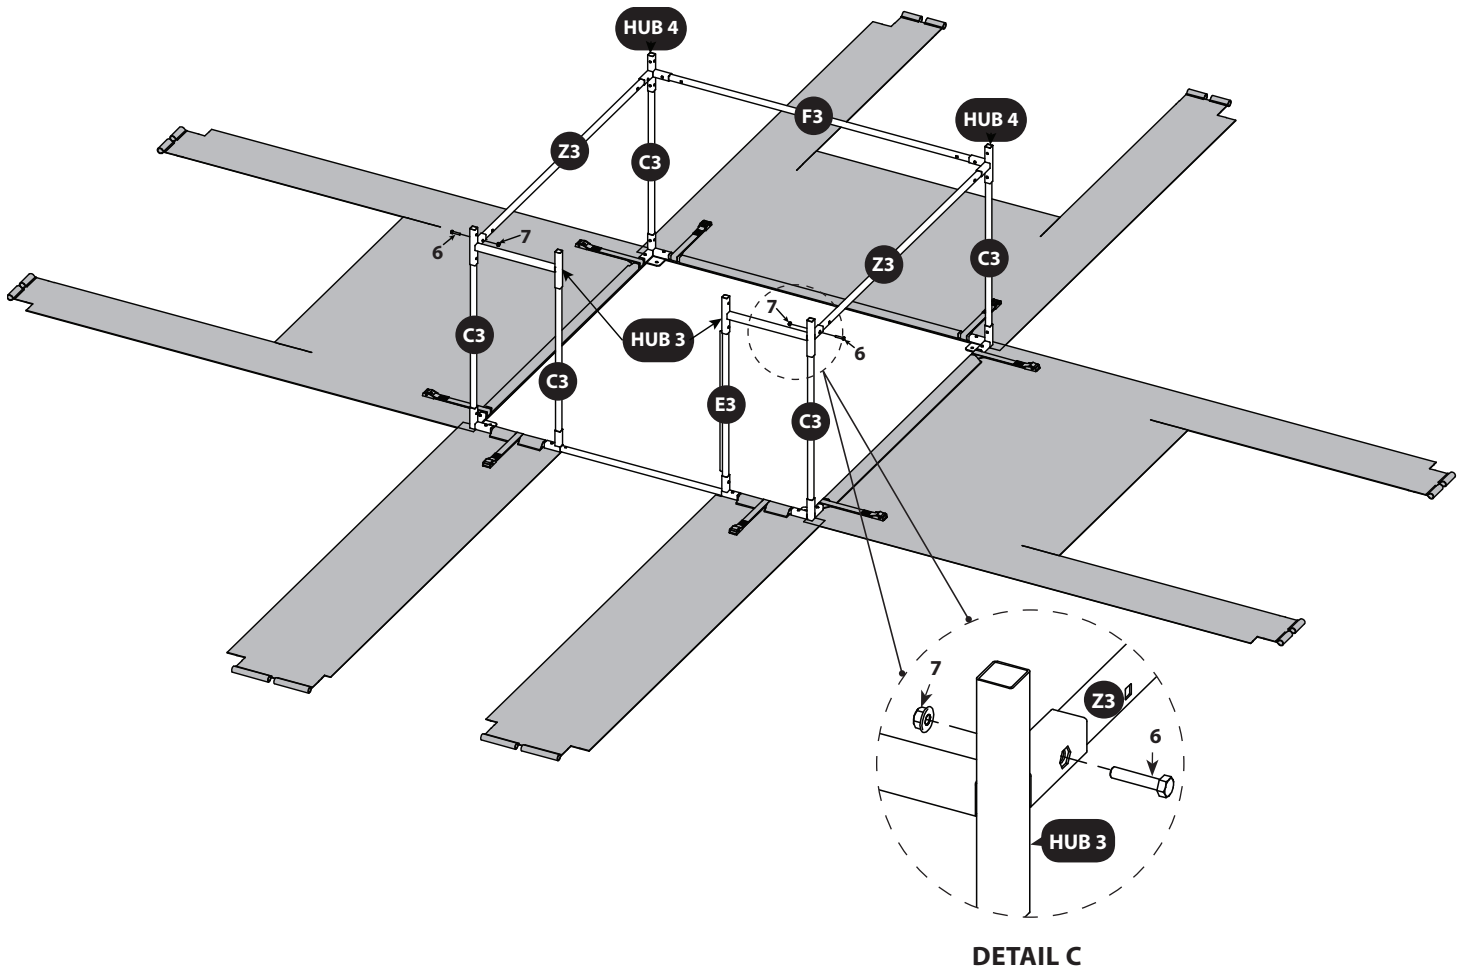

FIGURE 3
8. Locate two front corner hubs (HUB 3) and two middle corner hubs (HUB 4). Slide the two middle corner hubs (HUB 4) onto poles (C3) and the two front corner hubs (HUB 3) onto poles (C3) and (E3) as shown in **FIGURE 3**.
9. Locate two (Z3) and one (F3) poles and slide into corner hubs (HUB 3) and (HUB 4). Be sure to orient poles (Z3) with the snap button end into (HUB 4) and the opposite end into (HUB 3). Fasten the front corner hubs (HUB 3) with M6 X 30 MM bolts (6) and M6 nuts (7) as shown in **FIGURE 3 AND DETAIL C**.